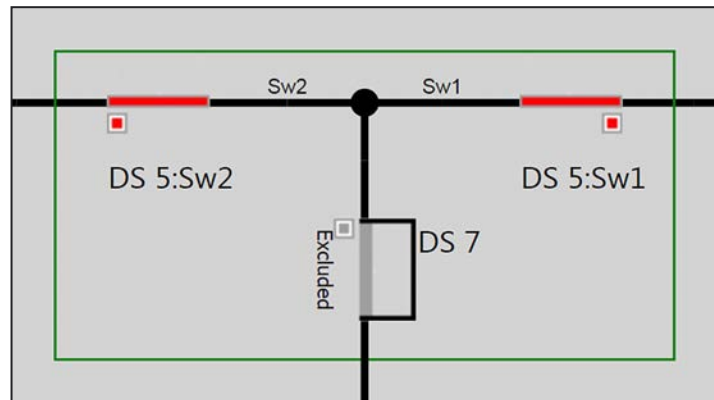

Figure 54. Three-switch pad-mount configuration, with a normally closed non-team manual switch.
STEP 3. If there is a third manual switch, add it as a switch on the line and then use the **Exclude/Include** button to convert it to a non-team closed manual switch, or use the **Exclude/Include Open** button to convert it to a non-team open manual switch. See Figures 54 and 55.